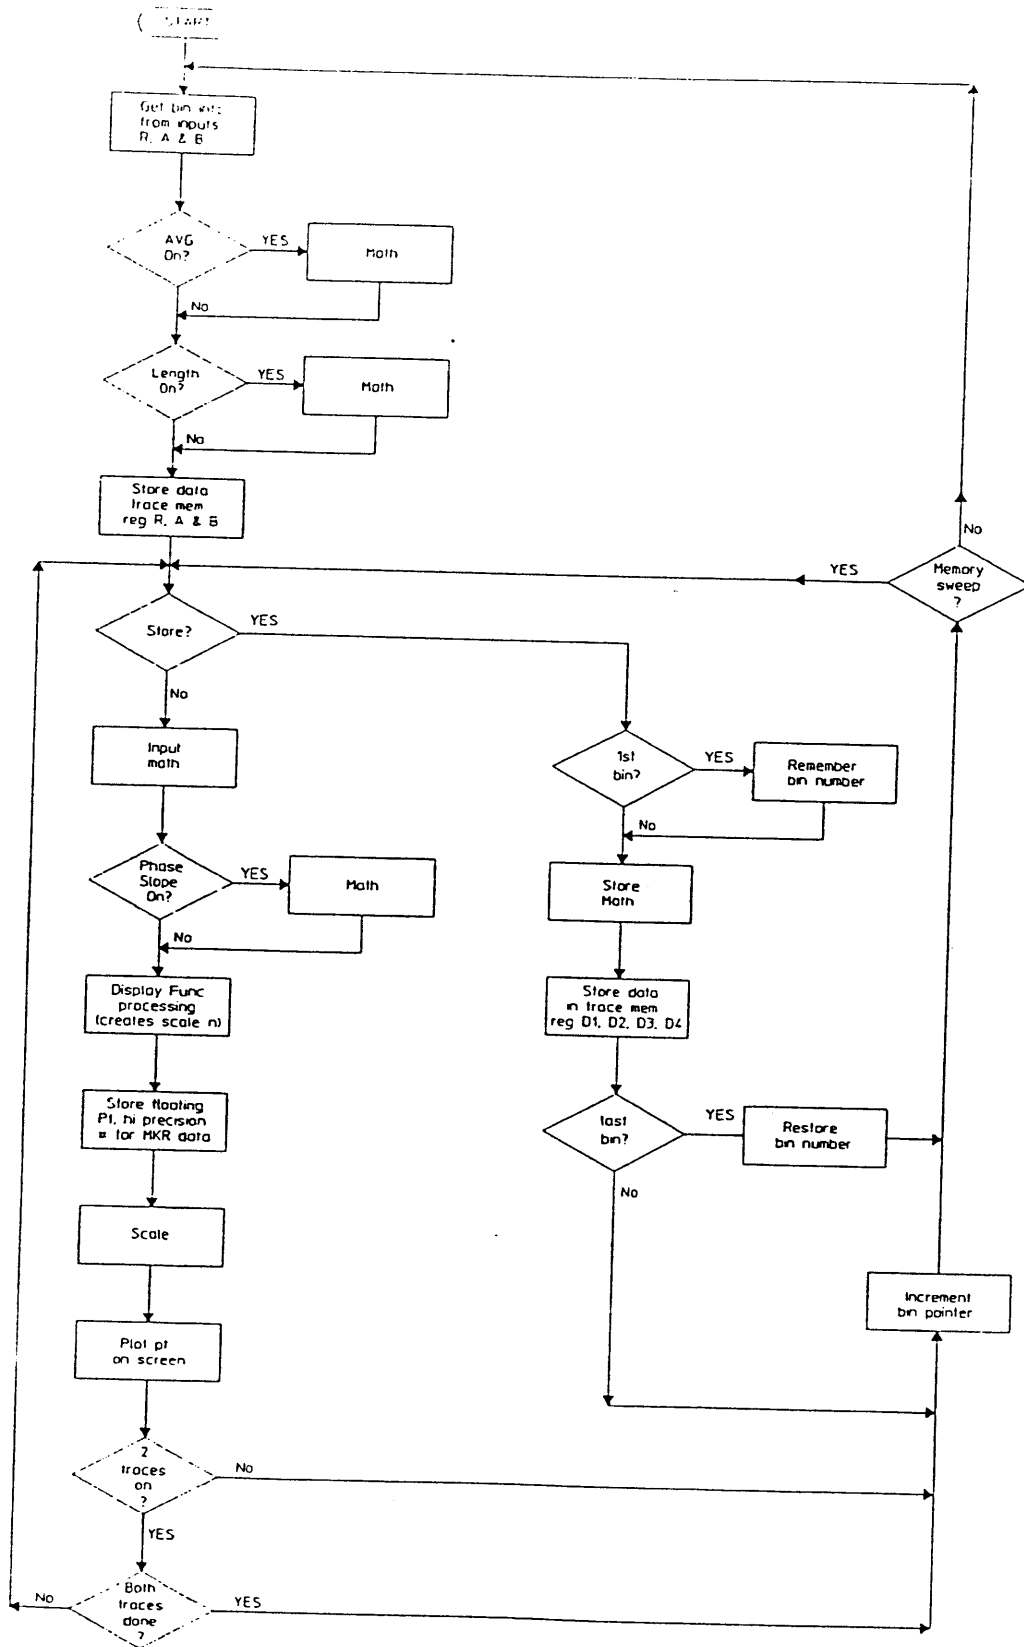

Figure A-1
Knowing how the HP 3577A takes measurements and what it does with the data will increase your effectiveness as a user. This section presents and explains the operating system flow chart of the HP 3577A Network Analyzer. For the following discussion refer to the flow chart in figure A-1.
1. A trace that stays within the boundaries of the figure A-1 graticule and